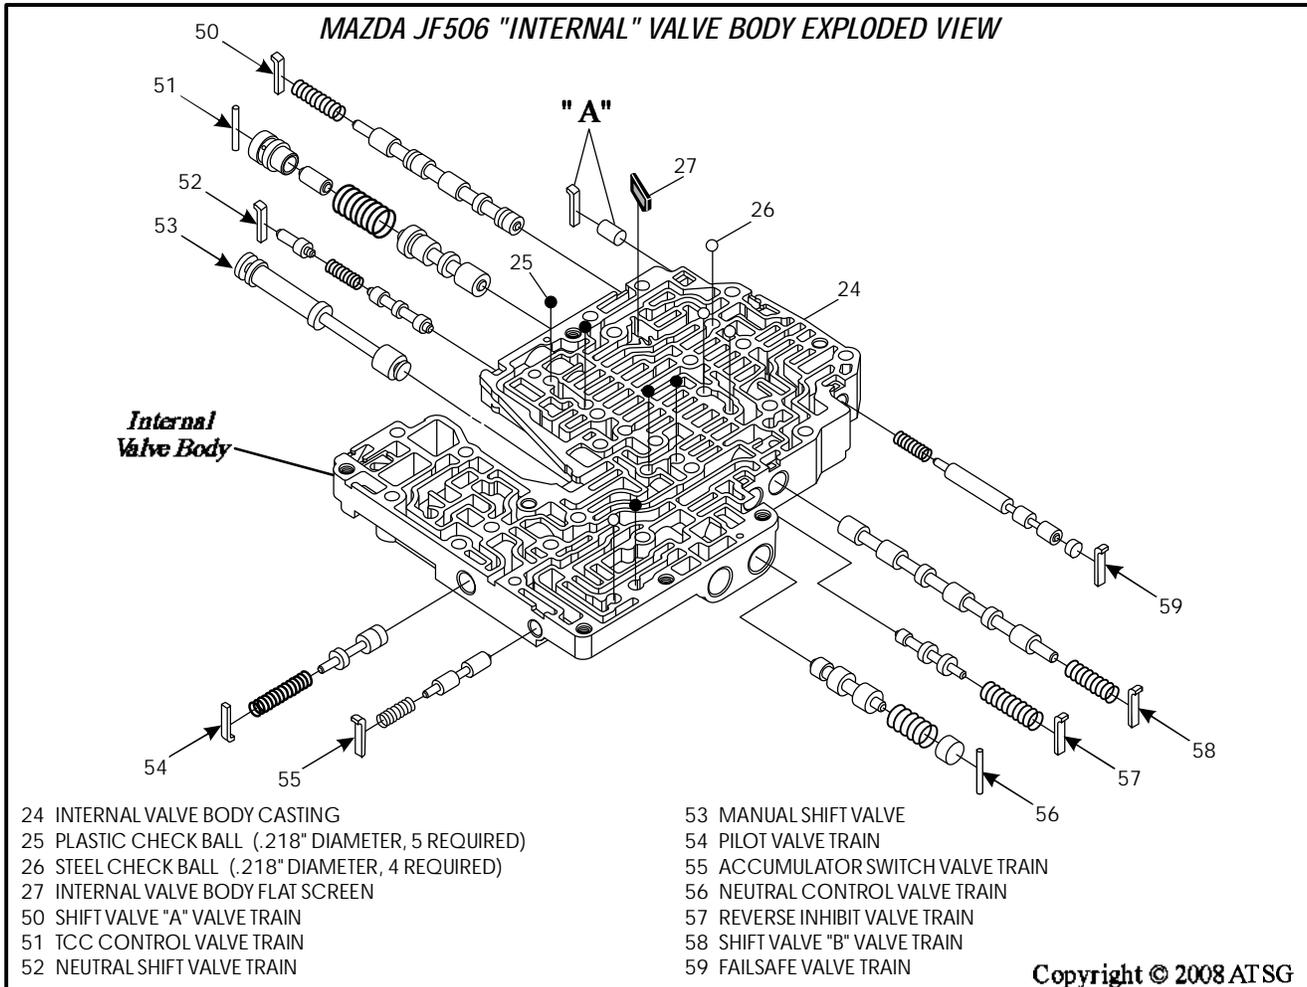

Figure 166
22. Disassemble the internal valve body, as shown in Figure 166, and place valves, bore plugs and retainers in appropriate trays exactly as they were removed from casting.
Note: *There is no need to remove the bore plug and retainer identified with an "A" in Figure 166, as the valve is removed from opposite side.*
24. Assemble internal valve body parts exactly as they are shown in Figure 166, and lube with the proper ATF as they are installed.
Note: *Install the retainers exactly as shown in Figure 166, as they install in different directions through out the valve body.*
25. Install the flat valve body screen into position, as shown in Figure 166.
26. Install the manual valve into the internal valve body in the direction shown in Figure 166.